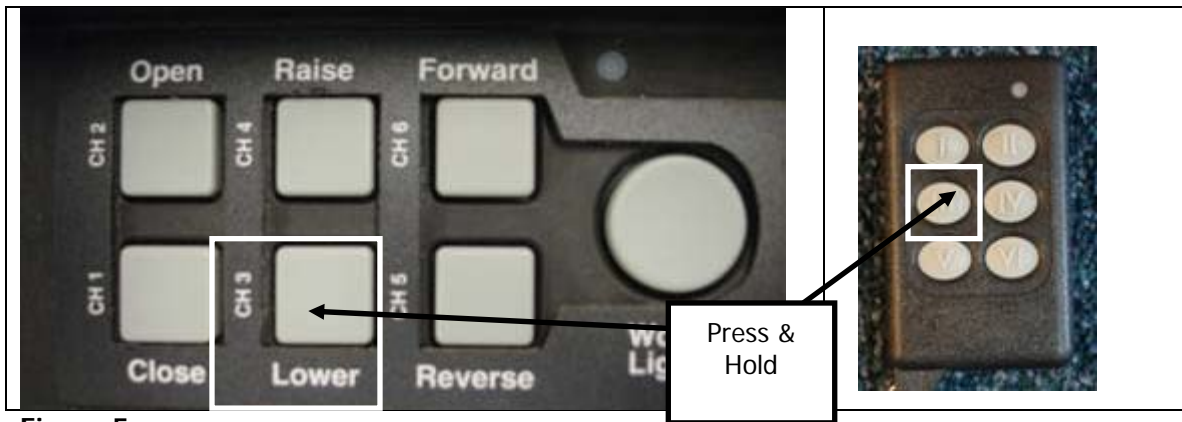

Figure 5
- 5) Lower tower so that tarp wraps neatly around front of container. To lower the tower press & hold button 3 on the control box or the key fob (see Fig. 5). On short cans you may have to pull tarp down to the top of the container and secure it with bungee cords.